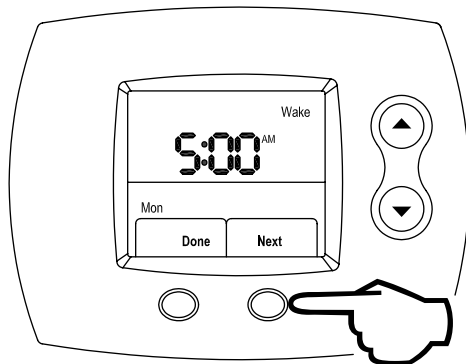

Figure 53
Step 6: Press the **RIGHT** (Next) button to lock in AM / PM. This is shown in Figure 53.